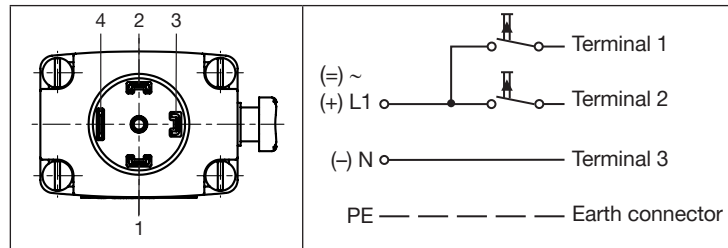

Fig. 8: Circuit diagram
- Pulse valves (variable code CF 02) as in “Fig. 8: Circuit diagram” connect. Pulse to Terminal 1 closes the valve; pulse to Terminal 2 opens the valve.